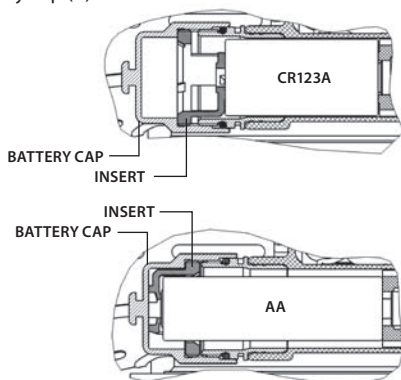

FIGURE 3-2. POSITIONS OF THE ADAPTER IN THE BATTERY CAP
1. Unscrew the battery cap (C) and check the position of the adapter (D). See Figure 3-2 for the correct positioning of the threaded adapter, which changes depending on the battery being installed.
3. Install the battery (B) into the battery compartment (A). Follow the battery symbol (E).
4. Replace the battery cap (C).